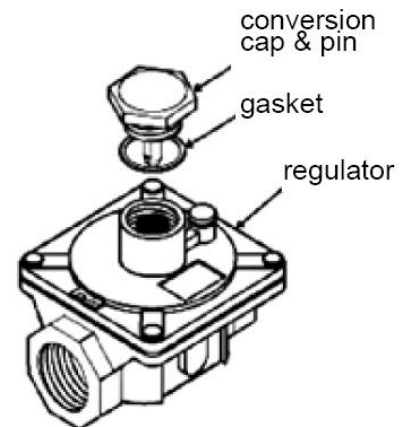

fig. 1 Gas pressure regulator
7. To operate with LP gas the regulator must be changed to operate at 10" WC. (see fig.1 on page 4) To do this remove the converter cap and pin from the regulator, remove the pin and invert then reinstall in the cap. Replace the cap on the regulator taking care that the gasket is in place on the cap